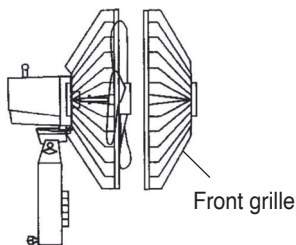

Fig. 5
4. Put front grille on rear grille and close clips, and then fix together with screw and nut provided. (Fig5)